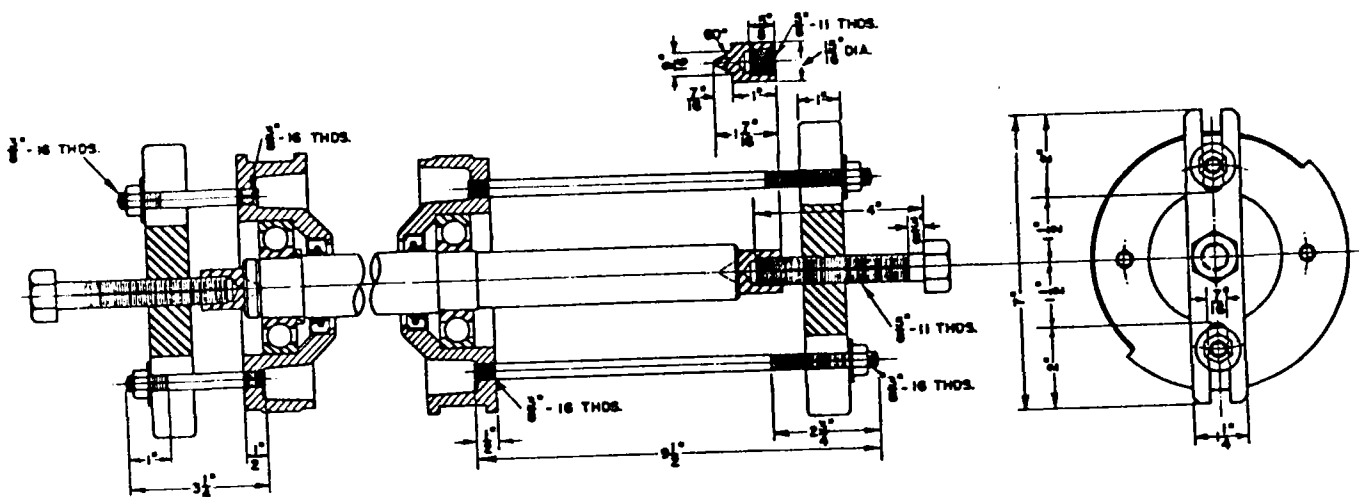

Fig. 19
10. Remove cap screws on each end cover and remove end covers (109 and 119) from bearing housing (134 or 166). Preserve end cover gaskets (360). On the Model 3406 and 3416 the constant level oilers (251) must first be removed from both thrust and coupling end and the oil drained from the bearing housings.
11. Remove snap ring (361) from shaft. Use No. 4 Waldes pliers. The Model 3416 has a shaft nut rather than a snap ring.
12. Remove ball bearings (112 and 137) from shaft seat by the use of a bearing puller. Details of a recommended puller, capable of removing bearings from all three groups of pumps, are shown in Figure 19. Care must be used. Puller bar must be
21. Assemble the pump half coupling on Group "S" pumps as follows: Put oil or white lead on shaft extension and in the coupling bore. Insert pump half coupling key in shaft. Place the complete pump half coupling over end of shaft and align key with keyway. Place a solid object, such as a portion of a 2" diameter bar, against the end of the shaft opposite the coupling end and drive coupling half on shaft with a lead mallet. Note: — If a bearing puller, similar to that shown in Fig. 19 (page 19) is available, it can be used on thrust bearing end to hold shaft when driving on coupling half. When using the puller for this purpose, draw the puller screw